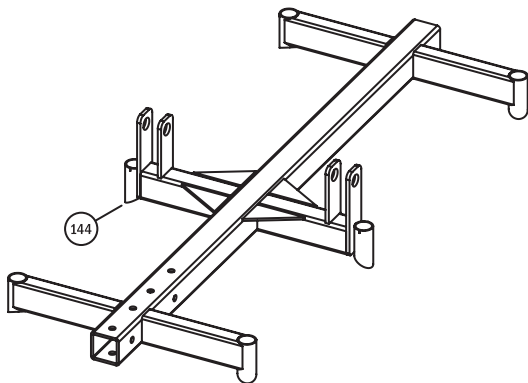

Fig. 1
**Step 4: Lay out the frame parts.** In a well-lit area with enough room to assemble and move the trailer around, set the Trailer Frame (144) onto the floor with the axle tangs facing upwards as shown in **Fig. 1**. NOTE: the front end (the end where the hitch is installed) of the trailer is the end with the two bosses with six M12 through holes.